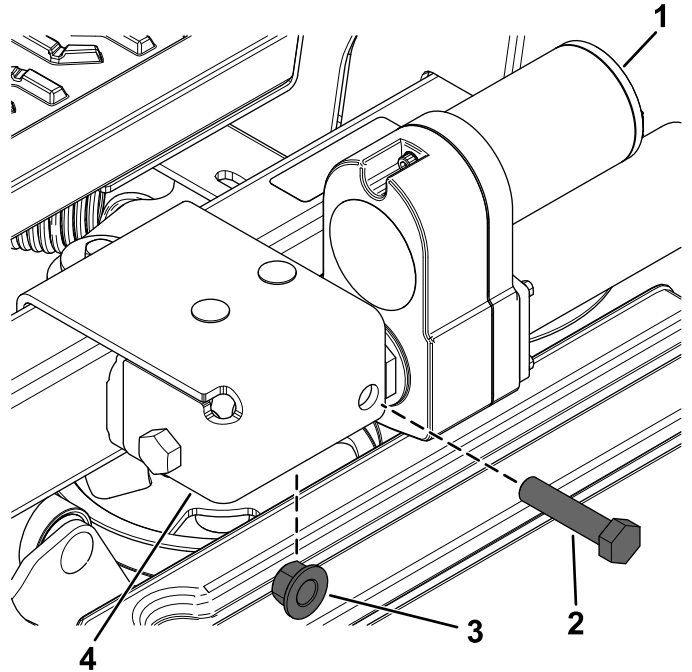

Figure 21
3. Secure the actuator to the outer actuator bracket using 1 flange-head bolt (1/2 x 2-1/4 inches) and 1 locknut (1/2 inch) as shown in Figure 21.